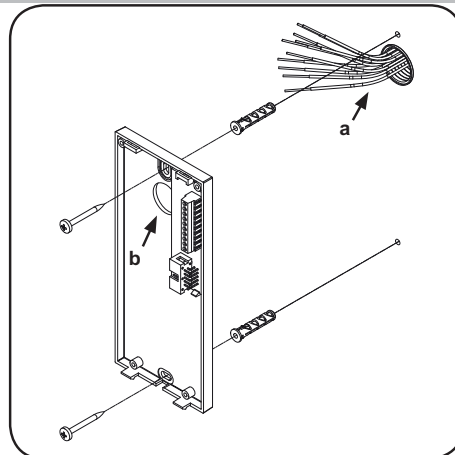

Fig.3
- Place the back plate of the intercom against the wall at approximately 135cm (Fig 2) above finished floor level, then mark the fixing holes taking into account that the cable group "a" must feed into the opening "b" (Fig 3).
- As shown in figure 3, fix the back plate of the intercom to the wall feeding the cable group "a" through opening "b".